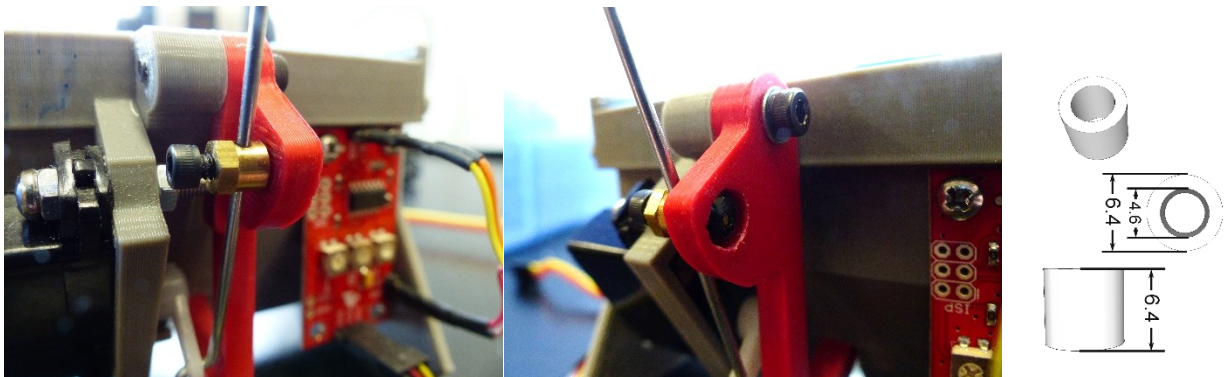

**Figure 4: Servo Trigger board mounted to a dispenser.**
5. Attach the **Servo Trigger board** to the hopper using two screws. In the example shown in Figure 4, we attached the board to the back-right side of the hopper but it can be also screwed to the outside surface of either the *Hopper side Left* or *Hopper side Right*.